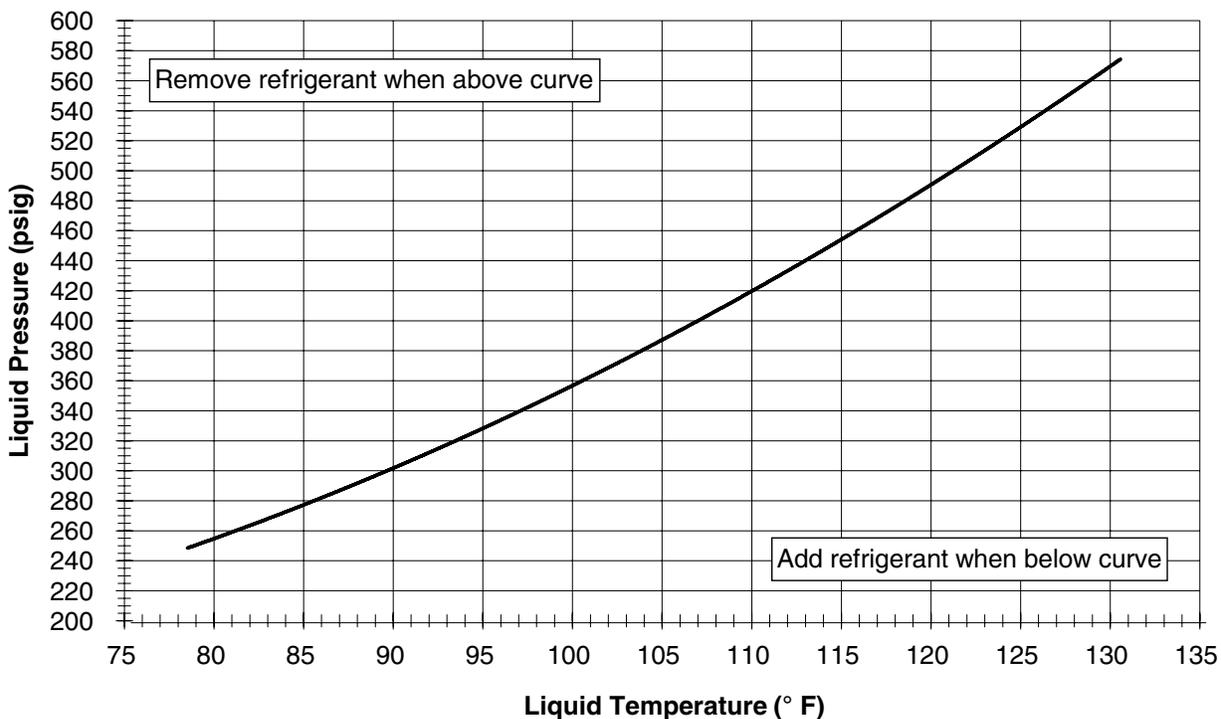
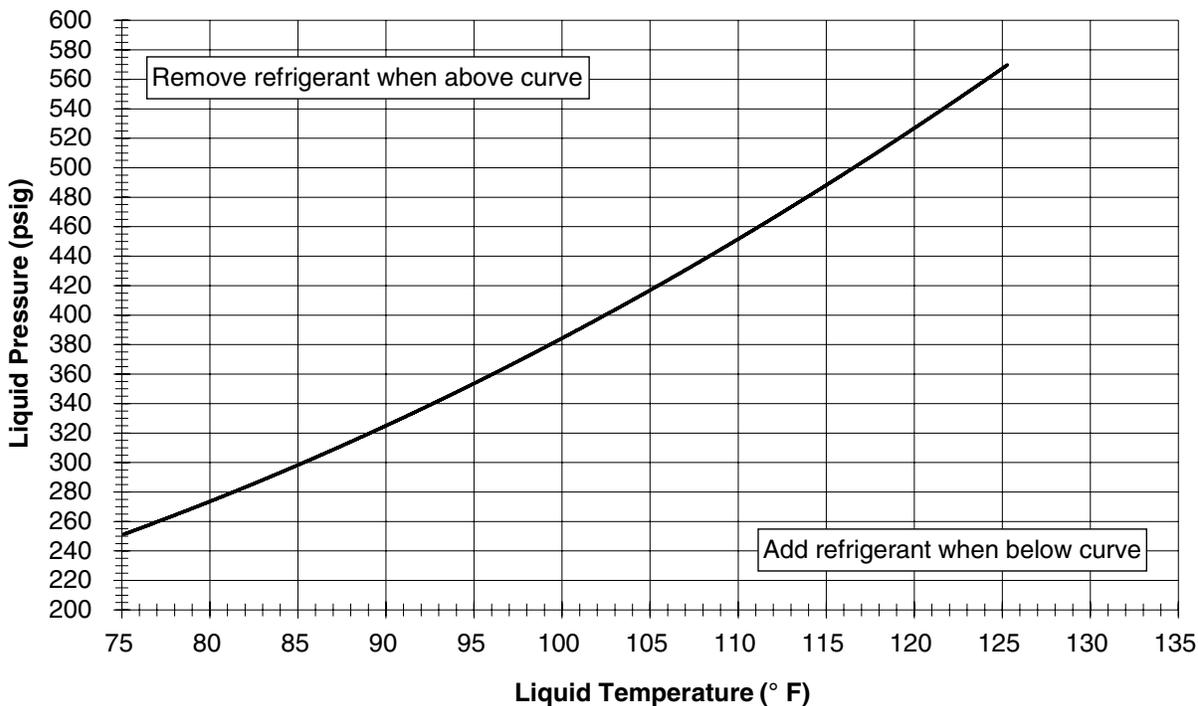
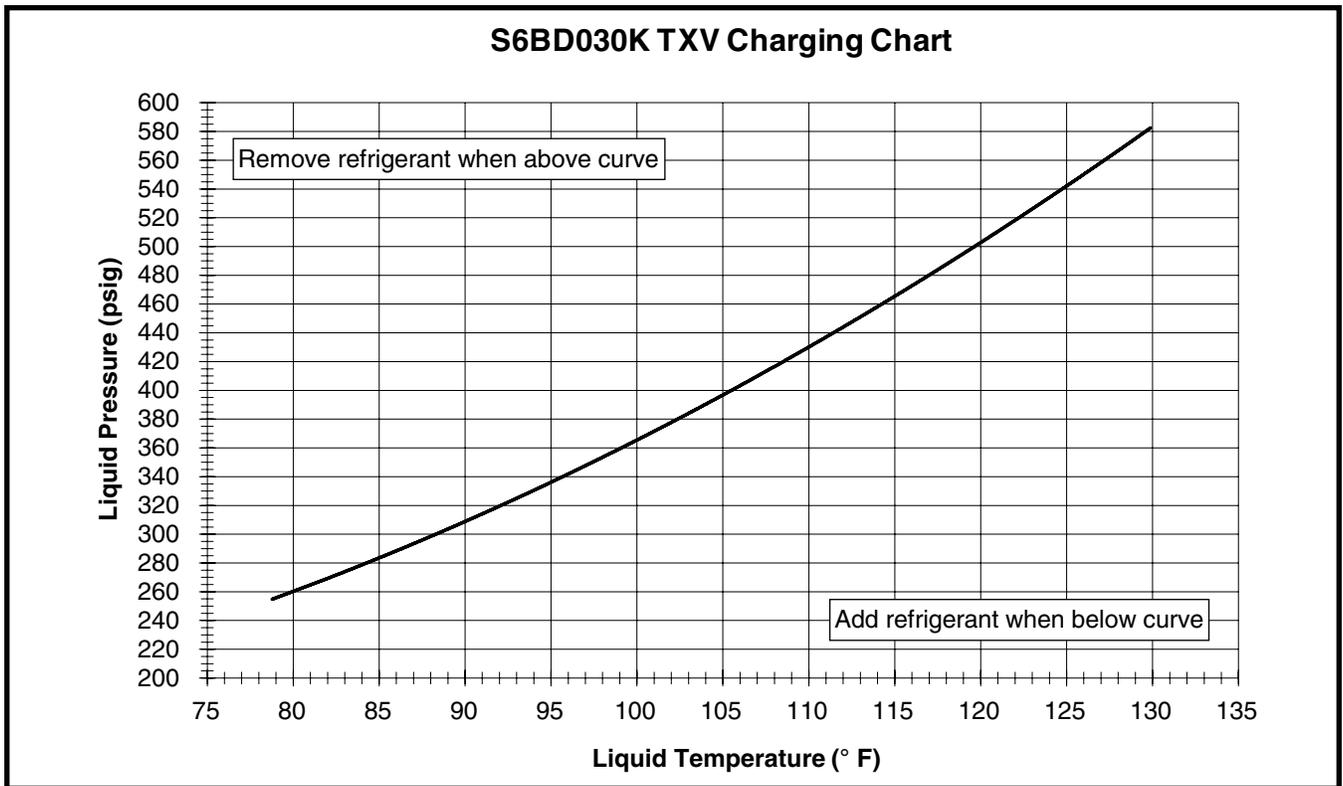
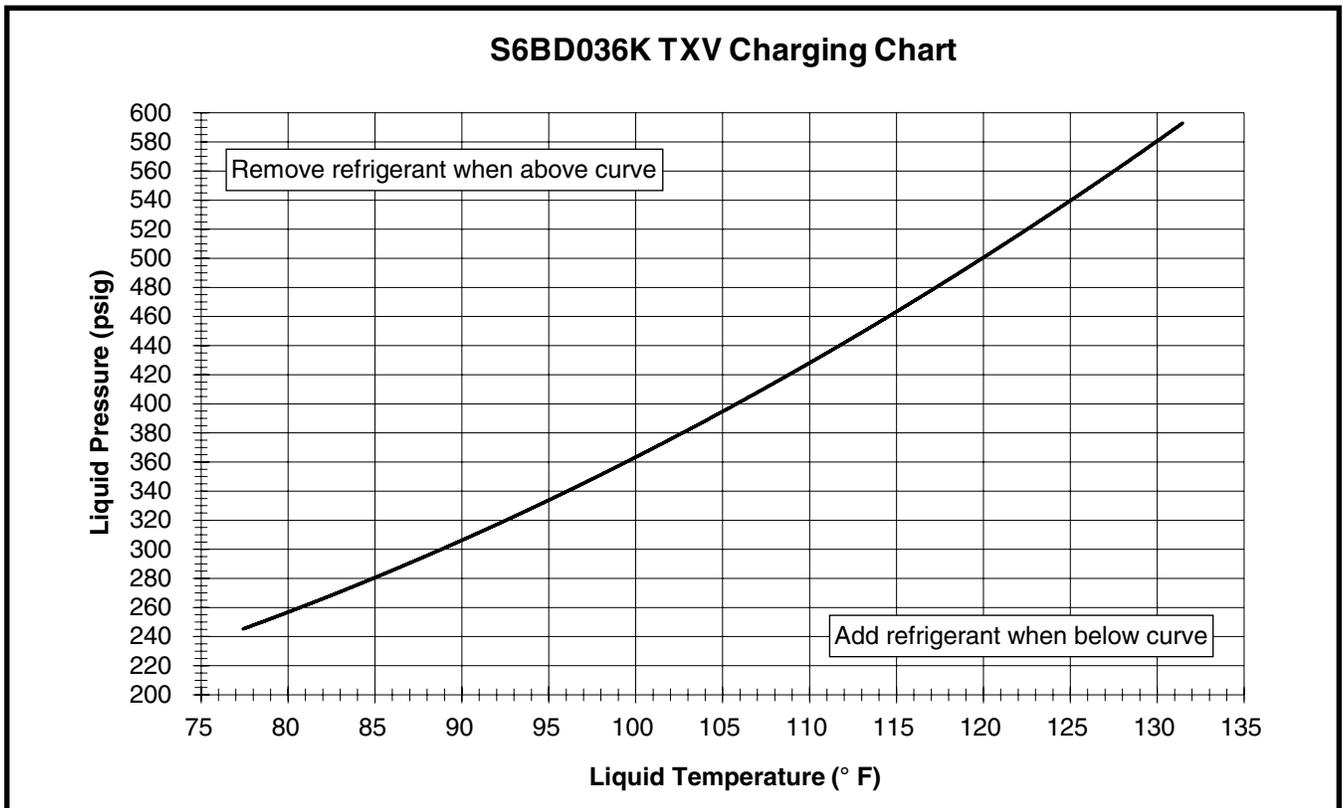

Figure 2. Charging Chart for 1.5 Ton Units - TXV Matches
Figure 3. Charging Chart for 2 Ton Units - TXV Matches
Figure 4. Charging Chart for 2.5 Ton Units - TXV Matches
Figure 5. Charging Chart for 3 Ton Units - TXV Matches
3. Determine the required liquid refrigerant pressure from the appropriate charging chart. See Figure 2 \(page 9\), Figure 3 \(page 9\), Figure 4 \(page 10\), & Figure 5 \(page 10\).
- Charging charts are valid for a variety of indoor, return air conditions and are most influenced by the outdoor ambient temperature, outdoor fan operation and the unit operating voltage. Before using these charts, make sure the unit is in a stable operating mode. As shown in Figure 2 \(page 9\), Figure 3 \(page 9\), Figure 4 \(page 10\), & Figure 5 \(page 10\), the ideal system sub-cooling can vary over the range of operation. Reference the charts to determine the ideal amount of sub-cooling for a given liquid pressure. Units charged to other values will not perform at the rated unit efficiency (EER) or rated Coefficient of Performance (COP) in heating mode.